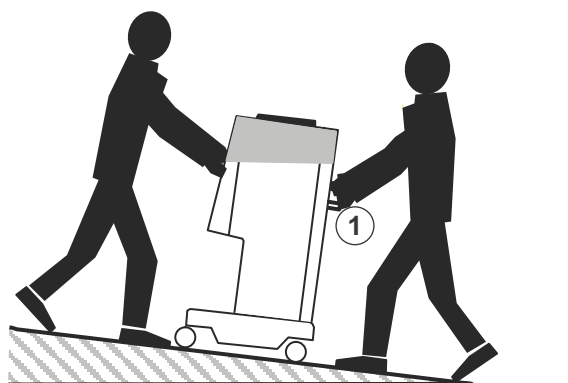

Fig. 3-1 Moving the machine on stairs and slopes (2 persons)
2. Move machine while holding it on the handles at rear side (Fig. 3-1, ①).